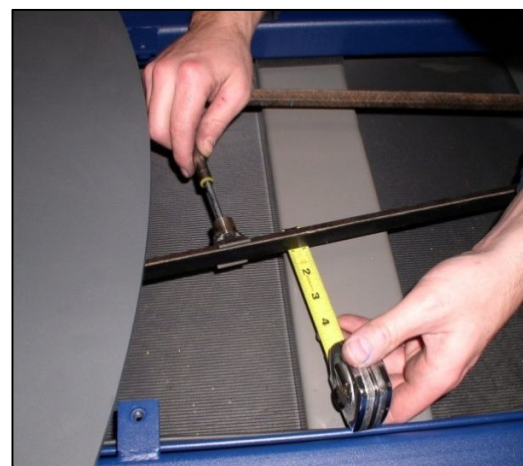

Figure 7.16
18. Use a force gauge (Figure 7.16) to measure the tension of the belt. Measure at the edge of the turntable top.